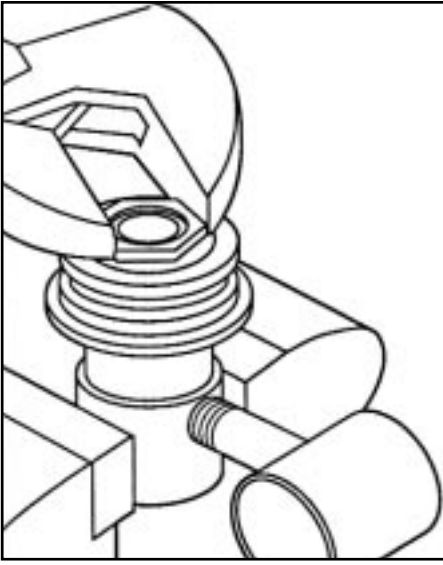

Figure 34
12. Remove the faceplate locknut and the faceplate from the oil chamber. (Fig.34 & 35)